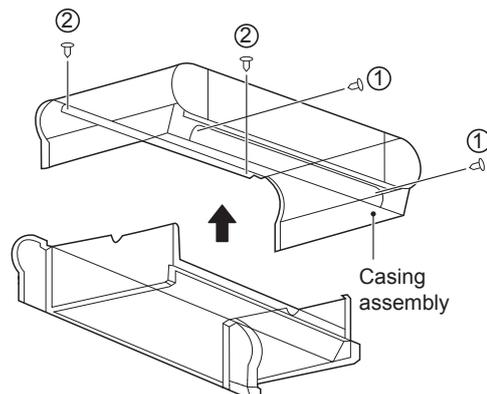

Figure 5-17 Removal of casing
As shown in Figure 5-17, remove screws ① *2 and ② *2 and then the casing.